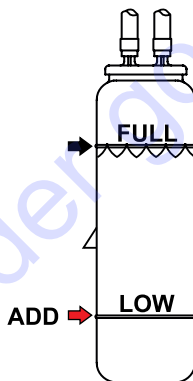

Figure 23. Coolant Recovery Tank
1. Verify that the coolant level in the coolant recovery tank is between the **FULL** and **LOW** markings as shown in Figure 23.